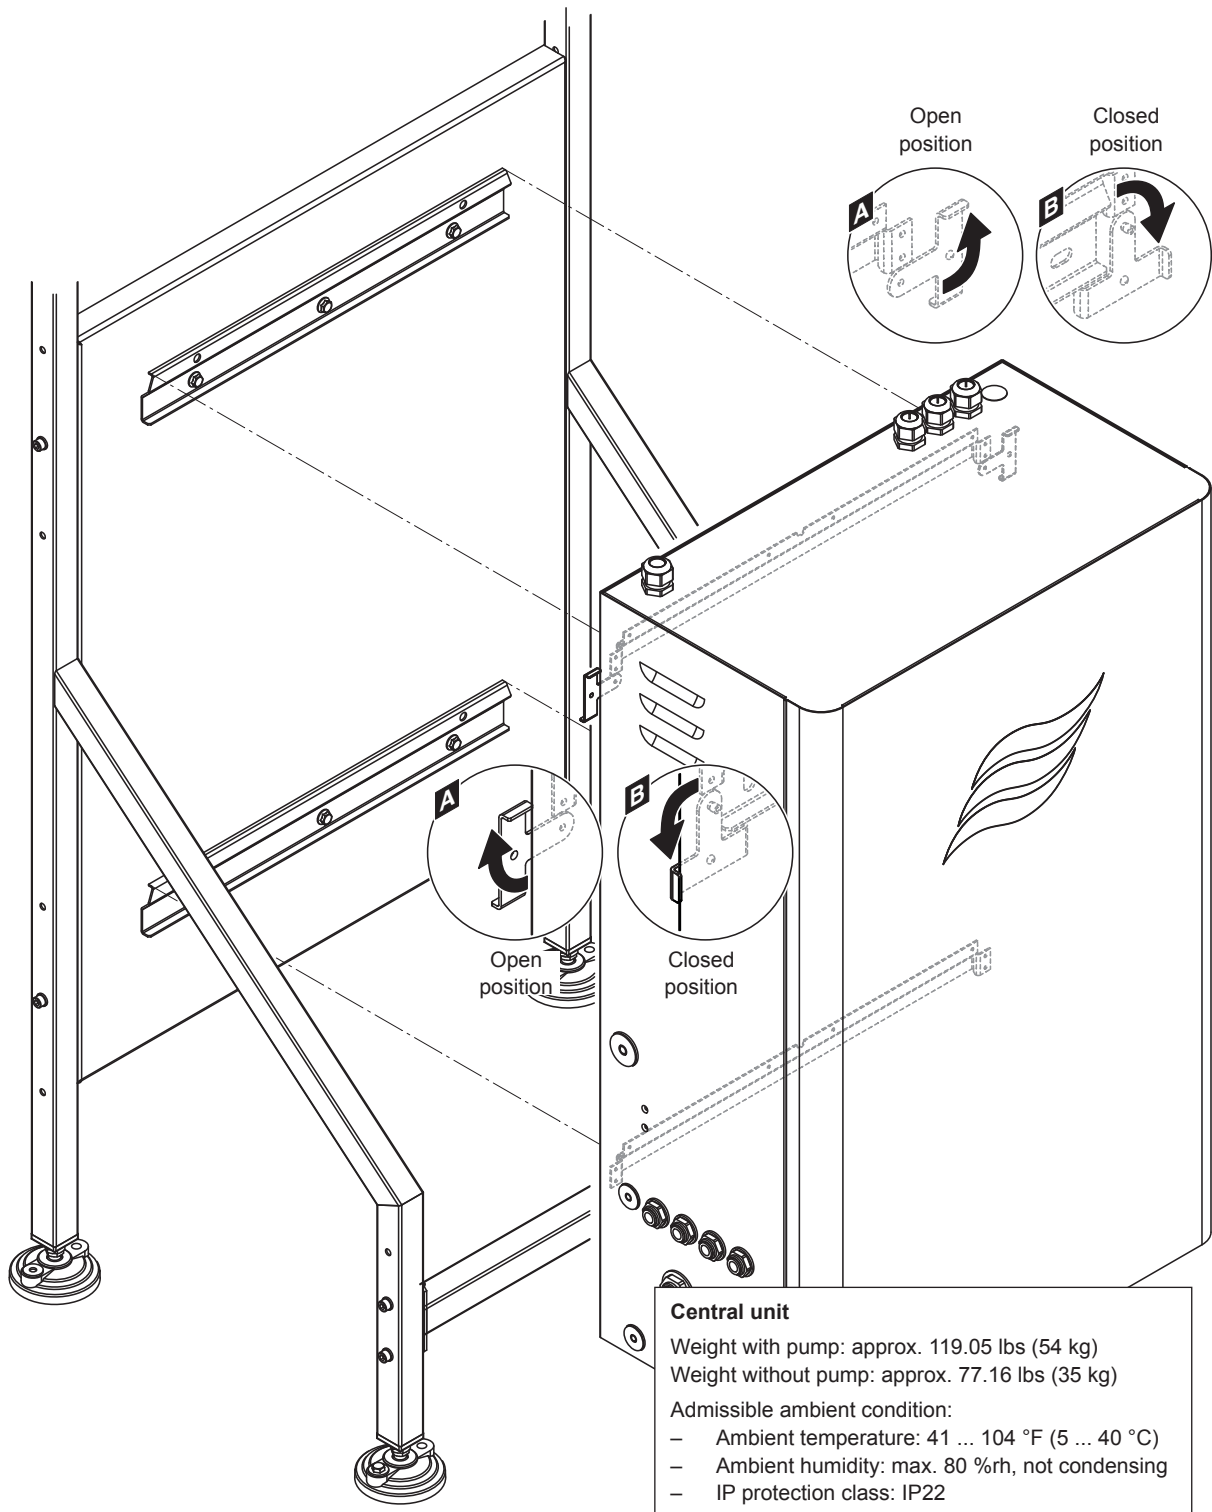

Fig. 36: Mounting the central unit to the mounting rack - dimensions in Inch (mm)
1. Move the locking hooks on the back of the central unit to open position (see detail "A" in Fig. 36).
3. Move the locking hooks on the back of the central unit to closed position (see detail "B" in Fig. 36) in order to fix the central unit to the upper wall support.